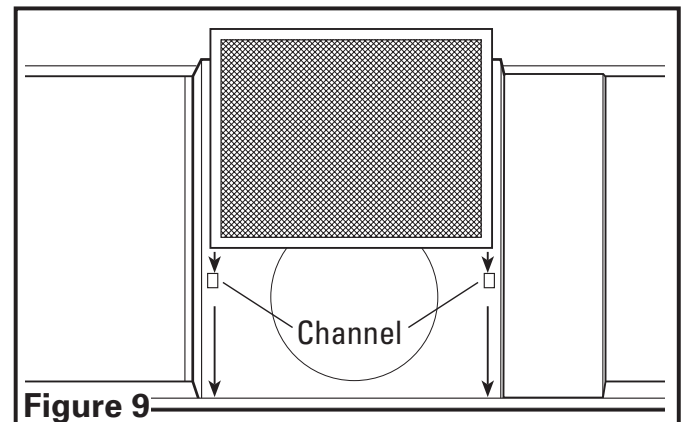

Figure 9
1. Install the filter by fitting the filter into the channel on the hood and sliding it back until it stops against the back of the hood (**Figure 9**).